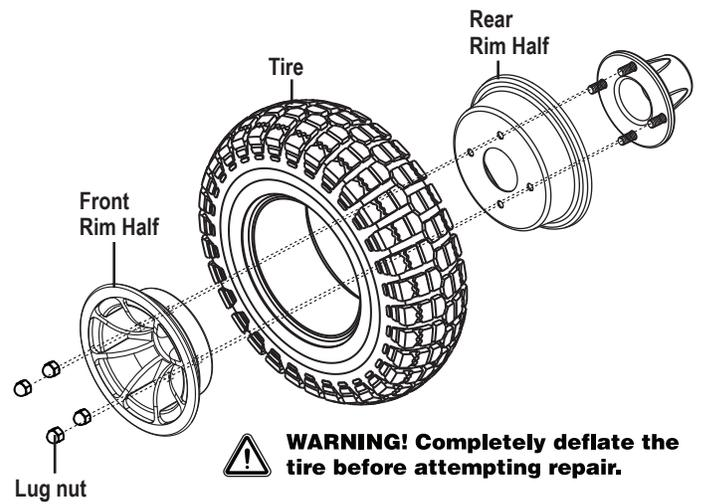

Figure 17. Drive Wheel Disassembled
6. Remove the screws and separate the front and rear rim. **See figure 17.**
10. Reinstall the four (4) lug nuts onto the wheel hub and tighten.